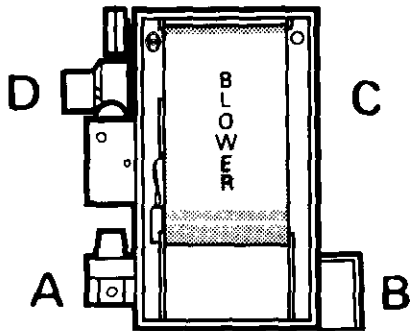

Figure 29 (4-042)
Install furnace with gas and electrical controls, draft inducer and pressure switch in one of two positions. You may leave gas and electrical controls draft inducer and pressure switch in as-shipped position as shown in position "A" in Figure 29, or you may relocate the controls to position "B" in Figure 29.
You may move controls to position "B" shown in Figure 29. If you decide to move controls, first move gas, then electrical controls. Starting position for controls is front of furnace; ending position is rear of furnace.
18. At location "B" Figure 29, install 7/8"-insert bushing in furnace casing. Install junction box with blower door interlock switch facing blower end of furnace. See Figure 20 for interlock switch location.